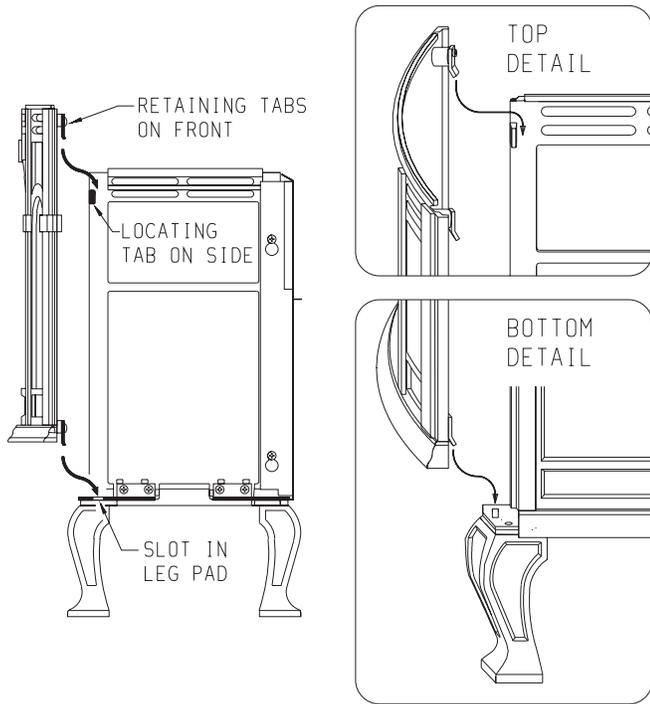

Figure 9
- D. Assembly of front by attaching retaining tabs and placing front on unit (Figure 8 and Figure 9).
11. Refer to Figure 9, attach casting front to casting by using the (4) retaining tabs on the casting front. The (2) top, retaining tabs on the casting front will be placed behind the (2) top, locator tabs on the front of the casting sides. The (2) bottom, retaining tabs will be inserted into the (2) 9/16" slots on the front, leg pads. Place the top, retaining tabs behind the top, locator tabs as you pivot inward the bottom of the casting front in order to insert the bottom, retaining tabs into the slots.